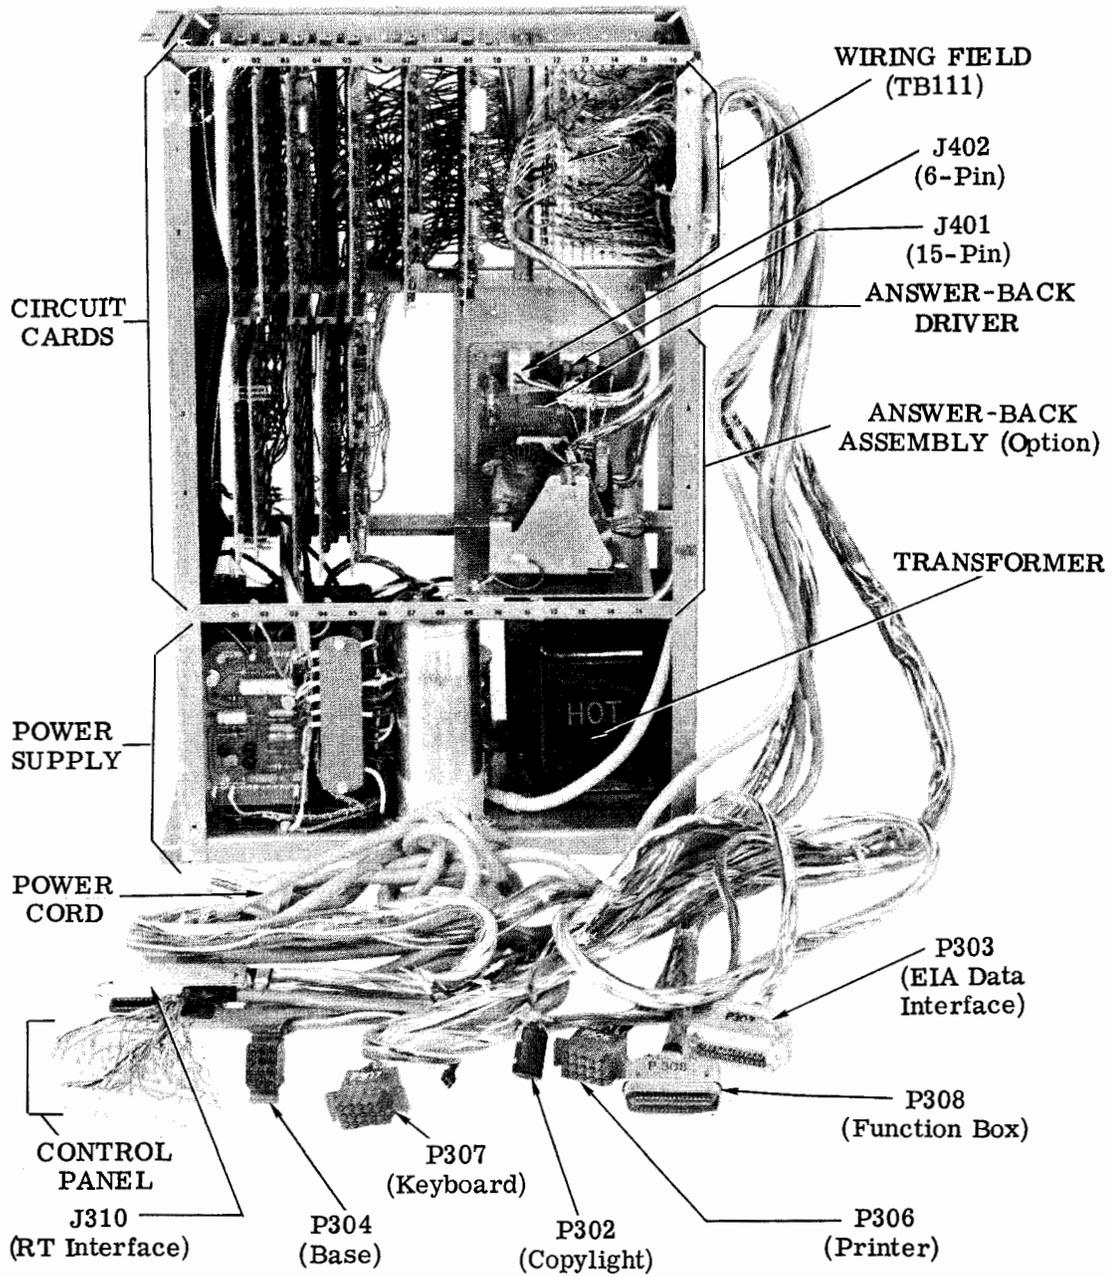

Figure 20 - 37 Electrical Service Unit
4.29 Remove the packing material from the answer-back assembly (Figures 20 and 22) by performing the following procedures.